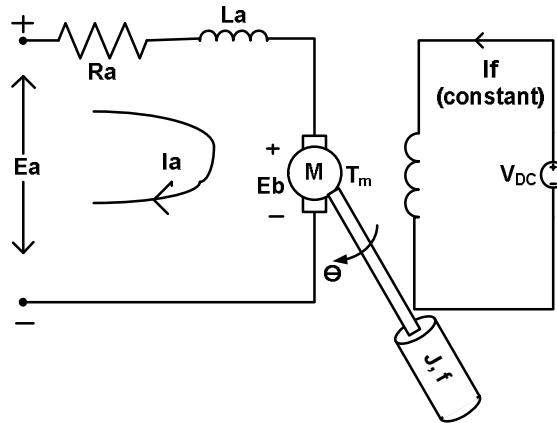

Fig.4.6. Schematic diagram of armature control type speed control system of a DC motor
**4.4. Mathematical model of armature controlled DC motor:** The armature control type speed control system of a DC motor is shown in Fig.4.6. The following components are used in this system.